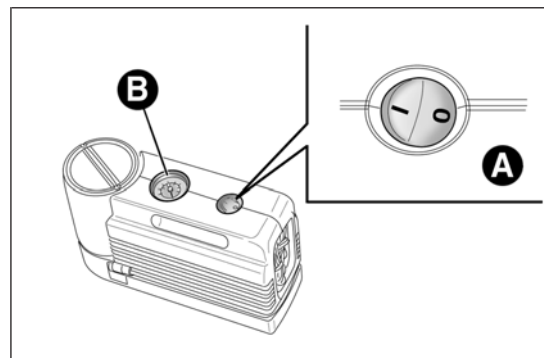
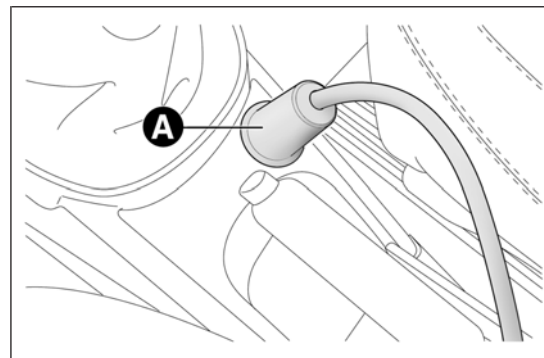

fig. 127
fig. 128
- ❑ make sure that switch A fig. 127 for the compressor is in position 0 (off), start the engine, insert the plug A fig. 128 into the power socket on the central tunnel and switch on the compressor by bringing switch A fig. 127 to position I (on);
- ❑ inflate the tyre to the pressure indicated in the "Wheels" paragraph in the "Technical specifications" section. In order to obtain a more precise reading, check the pressure value on pressure gauge B fig. 127 with the compressor off;